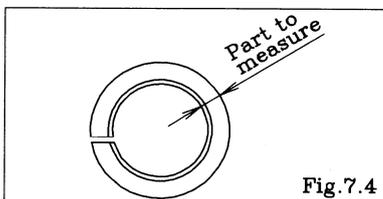

Fig. 7.4
- C-Spool valve Assembly Seal ring [Fig.7.4]